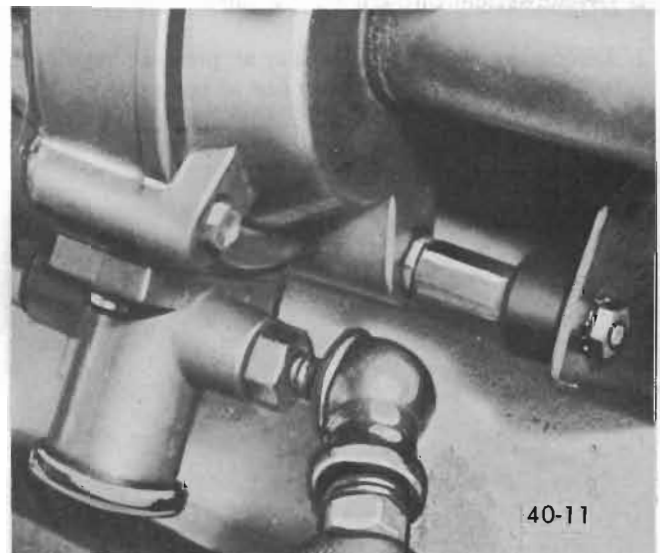

Figure 40-33 - Filling System Through Service Valve
3. Lower car and inflate system through service valve on compression. See Figure 40-33. Load rear suspension and allow car to come to level position. Unload rear suspension, this will put the minimum 8 to 15 psi air pressure in the Superlifts.